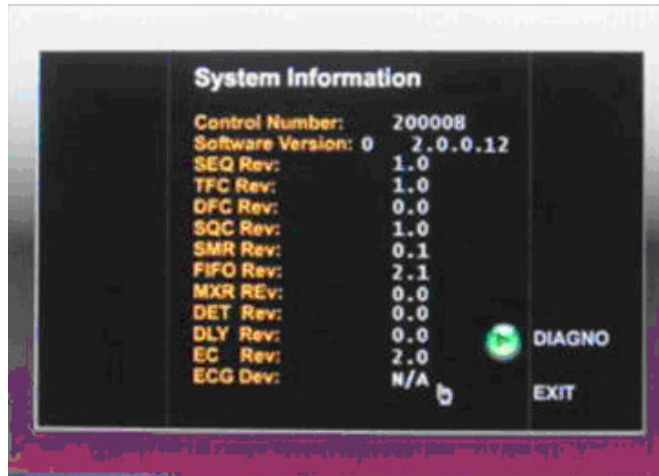

Figure 7.1: System Information Window
4. Press Set key to enter the system information submenu. The control number and the current software version number are shown (refer to Figure 7.1).